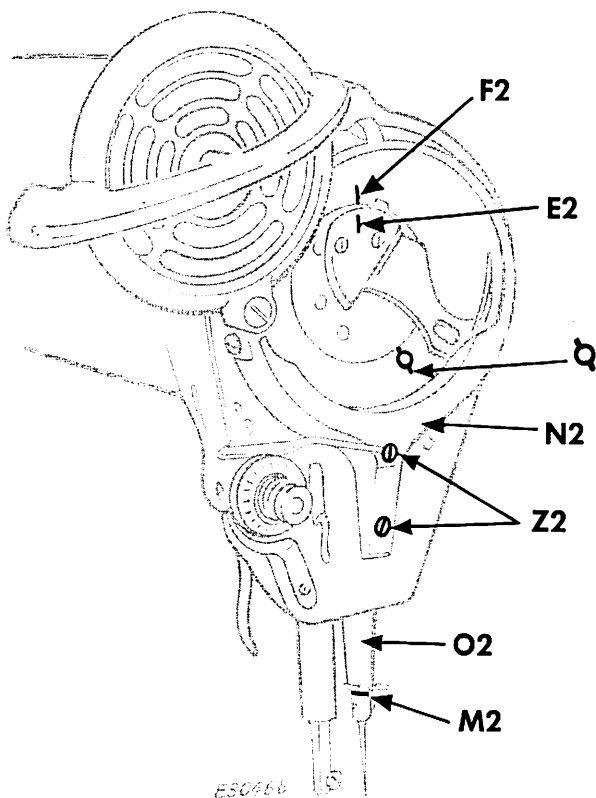
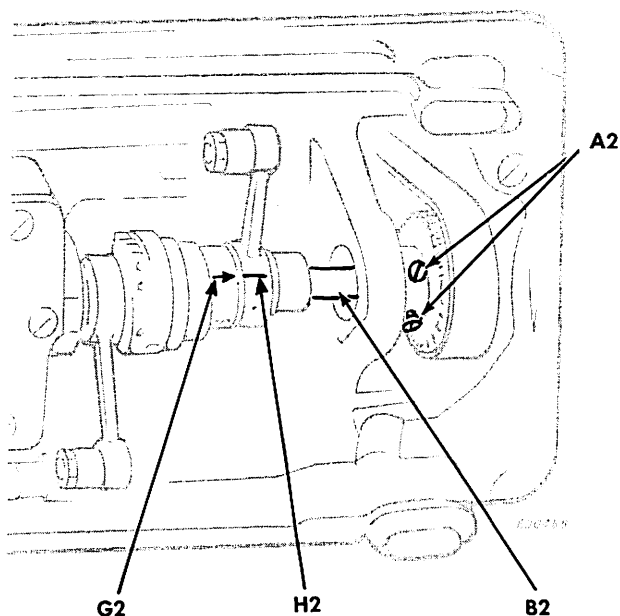
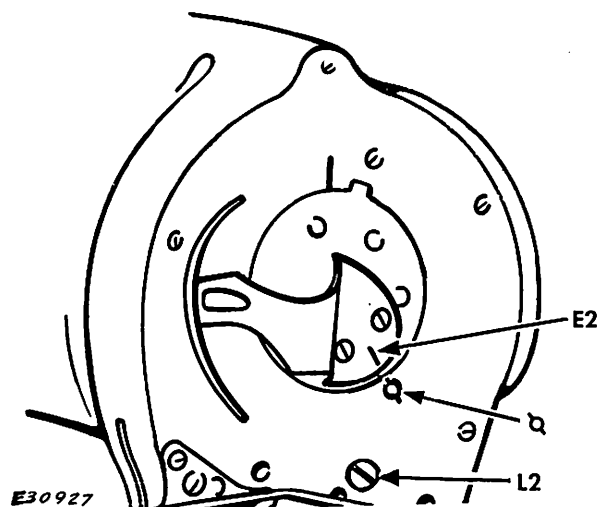

Fig. 30. Timing Mark on Take-up
Fig. 31. Timing Mark on Feed Lifting Connection
Fig. 32. Needle Bar Setting
Arm shaft and hook driving shaft (with their components) are in time with each other, for average sewing, when timing mark **E2**, **Fig. 30**, **page 13**, on take-up is in line with mark **F2**, **Fig. 30** on face plate, at same time that mark **G2**, **Fig. 31**, **page 13**, is in line with timing mark **H2**, **Fig. 31** on feed lifting connection.
To adjust for average sewing conditions, loosen the two pulley screws **A2**, **Fig. 31**; align timing marks **E2** and **F2**, **Fig. 30** and turn shaft **B2**, **Fig. 31** as required to align arrow **G2** with mark **H2**, **Fig. 31**.
Turn machine pulley over away from you until timing mark E2, Fig. 30 on take-up is in line with mark F2, Fig. 30 on face plate.
Needle bar should then be at its highest position and lower timing mark M2, Fig. 30 on needle bar should be just visible below lower end of needle bar bushing.
To set needle bar at correct height, remove two screws Z2 and rotary take-up guard N2, Fig. 30 and loosen needle bar connecting stud pinch screw L2, Fig. 32, through hole in face plate. Move needle bar to correct height and securely tighten screw L2.
Loosen screw L2, Fig. 32.
Drive needle bar bushing O2, Fig. 30, page 13 up or down in casting as required to bring its lower end level with the lower timing mark M2, Fig. 30 on needle bar.
1. Remove the two screws Z2, Fig. 30, page 13 and take-up guard N2, Fig. 30.
5. Replace take-up guard N2, Fig. 30, page 13 and securely tighten two screws Z2, Fig. 30.